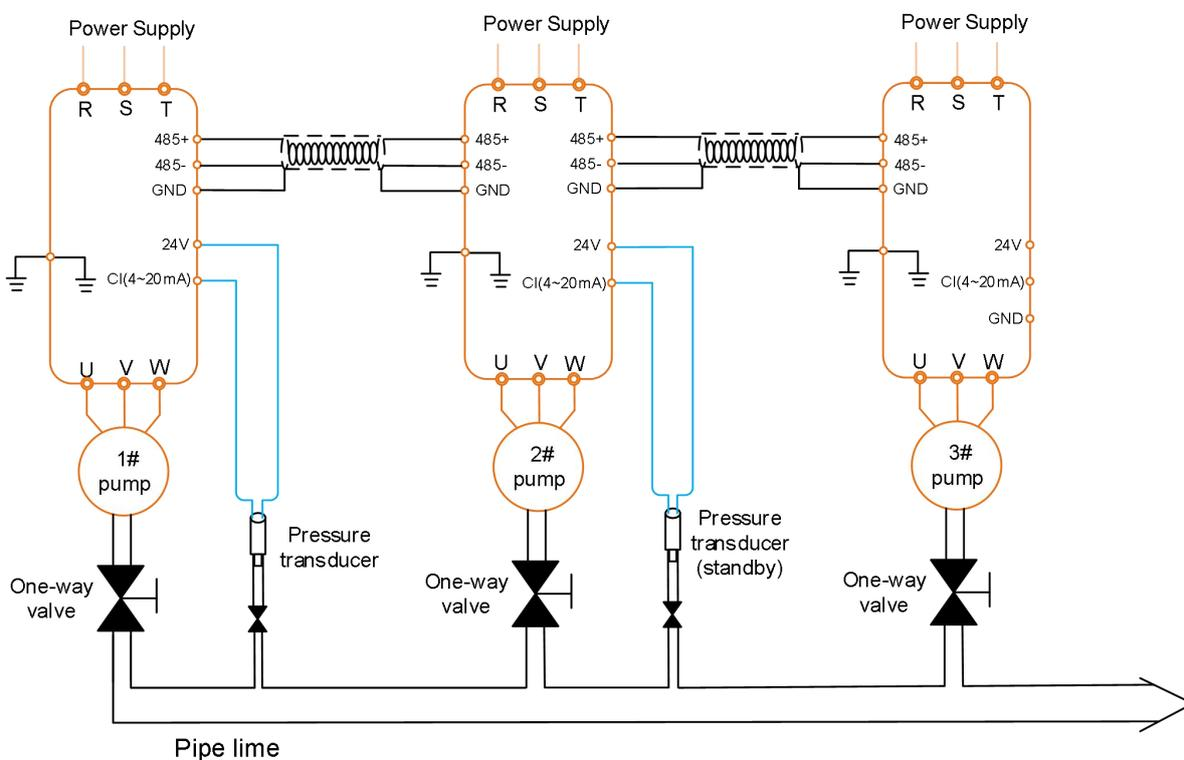
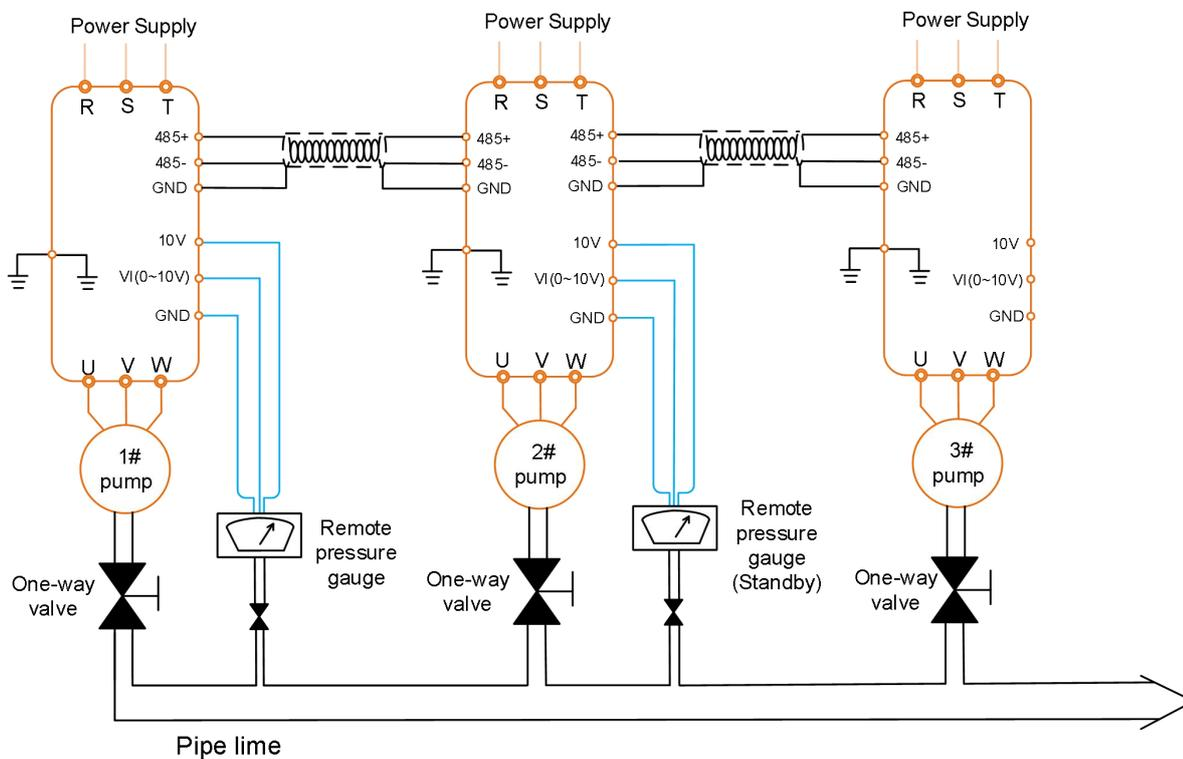

Fig 8.5 Connect with remote pressure transducer
Fig 8.6 Connect with remote pressure gauge
- ① Main circuit, please connect the power supply to R, S, T (Single phase please connect R, T), and output side please connect U, V, W with pump.
- ② Connect the pressure transducer or remote pressure gauge to the inverter correctly, please refer to Fig 8.5 and Fig 8.6 for details.
- ③ Connect the communication cables, please select shielded twisted-pair cable to connect the 485+ and 485- of the three inverters together.
- ① Set F0-00=0 (Manual operation mode) firstly, start the inverter and check whether the running direction of pump is correct. If the running direction is incorrect, change the value of F0-02 or change any two motor cables connection.
- ② Under manual operation mode, discharge the air inside the pump and pipe line.
- ① Set correct value in F0-04.
- ② Under manual operation mode, start the inverter and check whether the feedback pressure and real time display pressure on the inverter are the same. Long time press [▲] or [▼] to increase or decrease pump speed to check whether the feedback pressure is changed accordingly, if the feedback changes, it means the pressures transducer's wiring connection is correct (watch 1# pump).
- ① While start the inverter at the first time or forget some parameters, please set F0-28=1 to initialize the factory default value.
- ② Set parameters one by one based on the above mentioned parameters list, F1-01 ~ F1-04 parameters are only needed to set in master inverter, but for two master system, it needs to set the parameters both in 1# inverter and 2 # inverter..